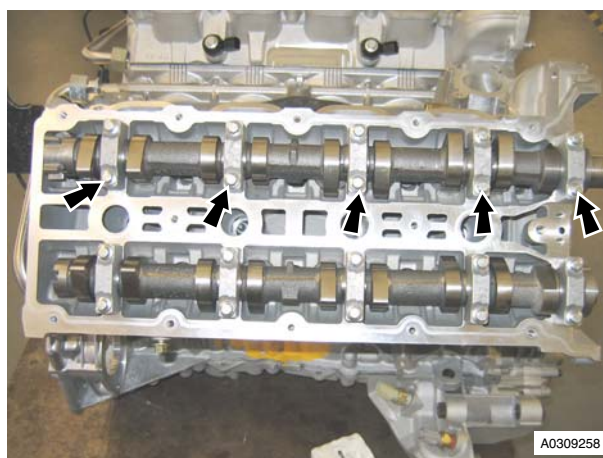

Figure 1
9. Remove RH exhaust camshaft bearing cap retaining bolts (x10) evenly and in stages (see Figure 1).